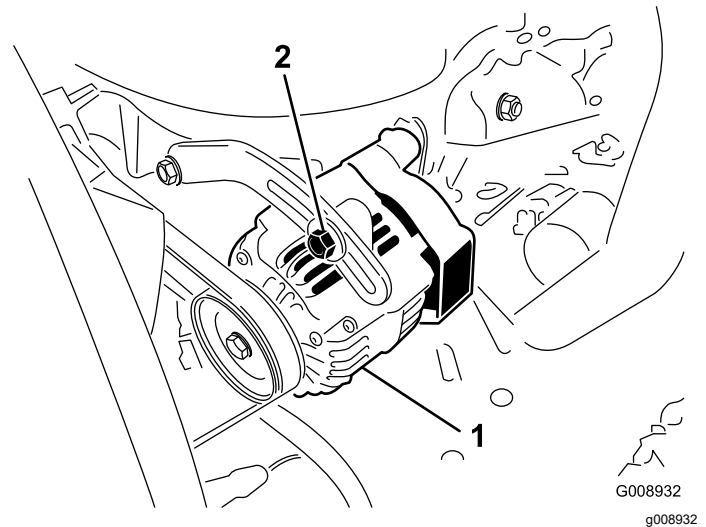

Figure 47
2. If the deflection is not 10 mm (3/8 inch), loosen the alternator mounting bolts (Figure 47).